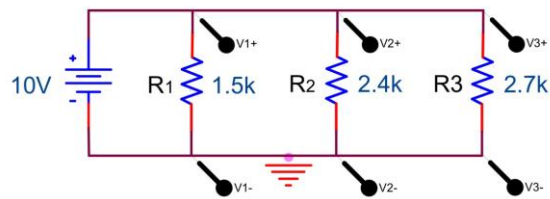

Figure 2.6
4. Construct Figure 2.6. Measure and record V_1 , V_2 , and V_3 . Calculate the current using the taken measurements, annotate them.